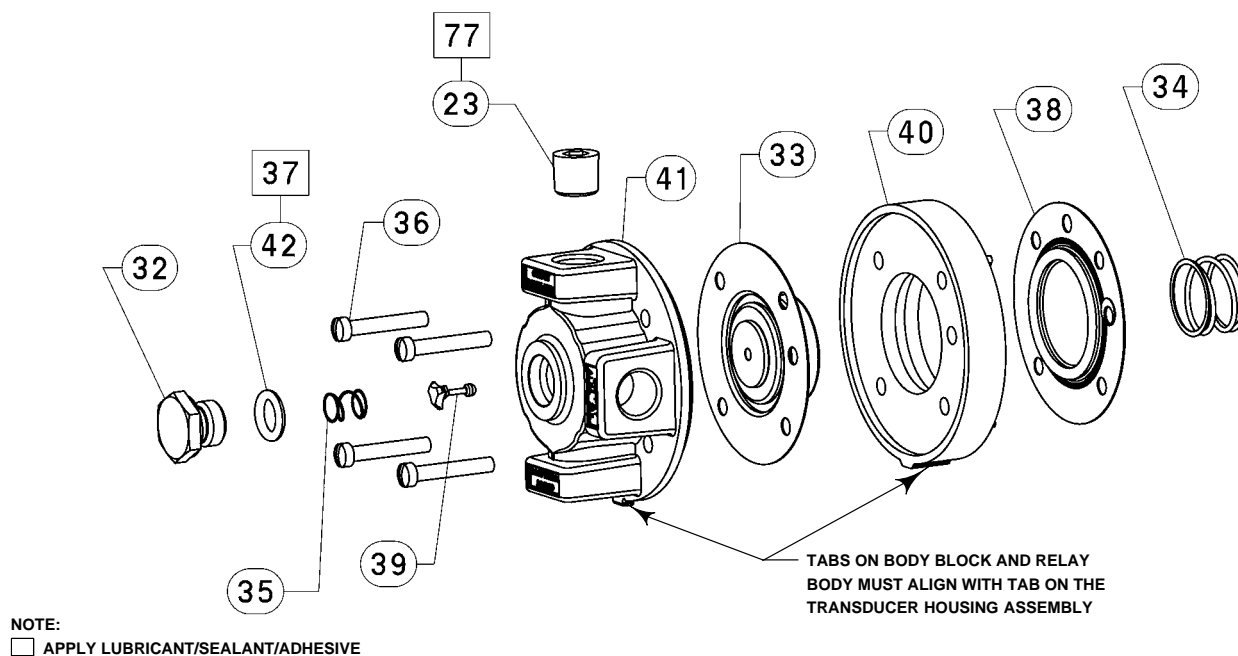

Figure 14. Fisher® i2P-100 Relay Assembly
1. Remove the four mounting screws (key 36, shown in figure 14) and remove the relay from the transducer. Be careful not to lose the bias spring (key 34) and input diaphragm (key 38).
2. Remove the body plug (key 32) that holds the inner valve spring (key 35) and valve plug (key 39) in place from the relay body assembly.
3. Remove the exhaust port assembly (key 33) from the relay assembly.
4. Inspect the springs, exhaust seat, valve plug, and other parts for wear or damage; replace as necessary. Note: the valve plug supply seat is an insert in the relay body (key 41). If this insert is bad, replace the relay body.
Relay Assembly (see figure 14)